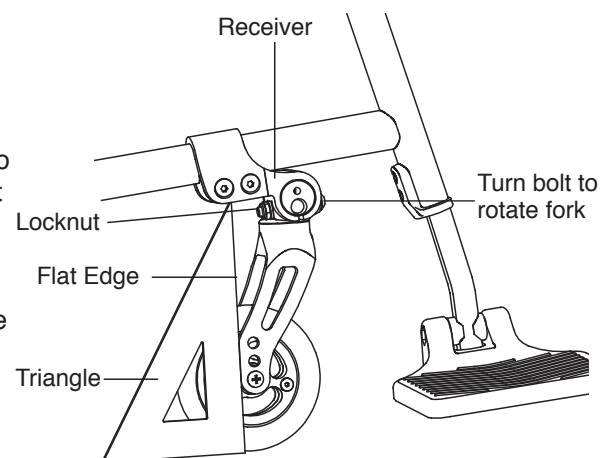

Figure 95
2. Loosen the locknut while keeping the bolt from rotating. **Note:** it is only necessary to loosen (not remove) the locknut to allow the bolt to be easily turned with an Allen Wrench. See Figure 95.
4. Use a drafting triangle or similar 90° angle tool as shown in figure 95, to adjust the fork to be perpendicular to the level surface. To do this, first rotate the fork toward the rear wheel past the perpendicular position. Then slowly turn the bolt to bring the fork back to a perpendicular position.